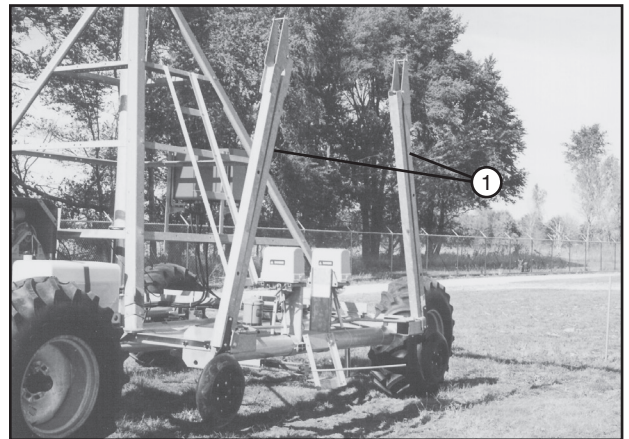

Figure 77-2 1. Furrow Guidance Arms (Up Position)
2. Fold up the guidance arms and secure with the rubber straps (machines equipped with furrow guidance). See Figure 77-2.